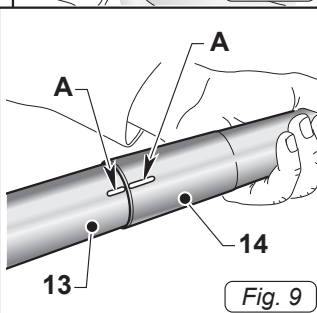

Fig. 9
- Attach the two rigid extensions (13 and 14 Fig. 9), matching up the two references (A Fig. 9).
- Attach the two rigid extensions (13 e 14 Fig. 9), matching up the two references (A Fig. 9).